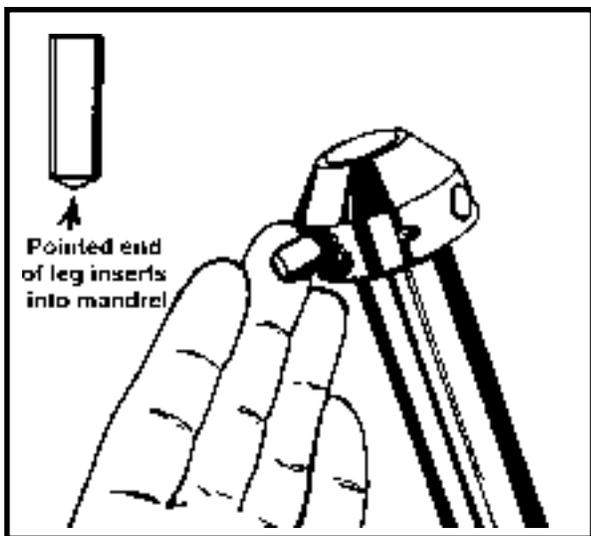

Figure 20
2. Insert legs in mandrel head (Figure 20).